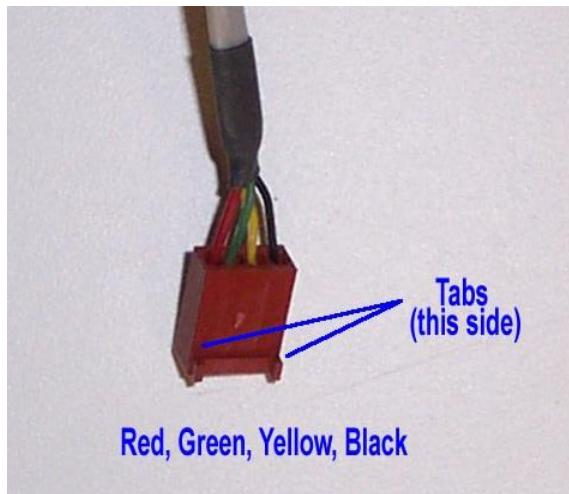

Figure 63: SRF04 Ultrasonic Header Hookup
10. Slide the heat shrink back onto the end of the wire and shrink it as shown in Figure 63.
12. Install the 4 crimps into the connector as show in Figure 63.